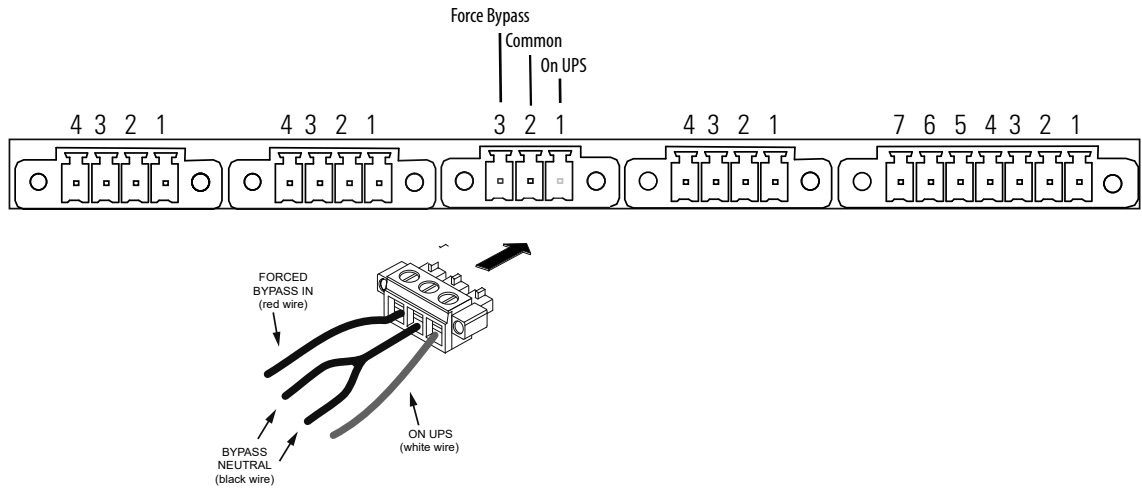

Figure 20. BPE to UPS Connector
- a. Connect up the 4 wires from the BPE to the 9PXM per the attached drawing and using the 3 pin connector (see Figure 20).